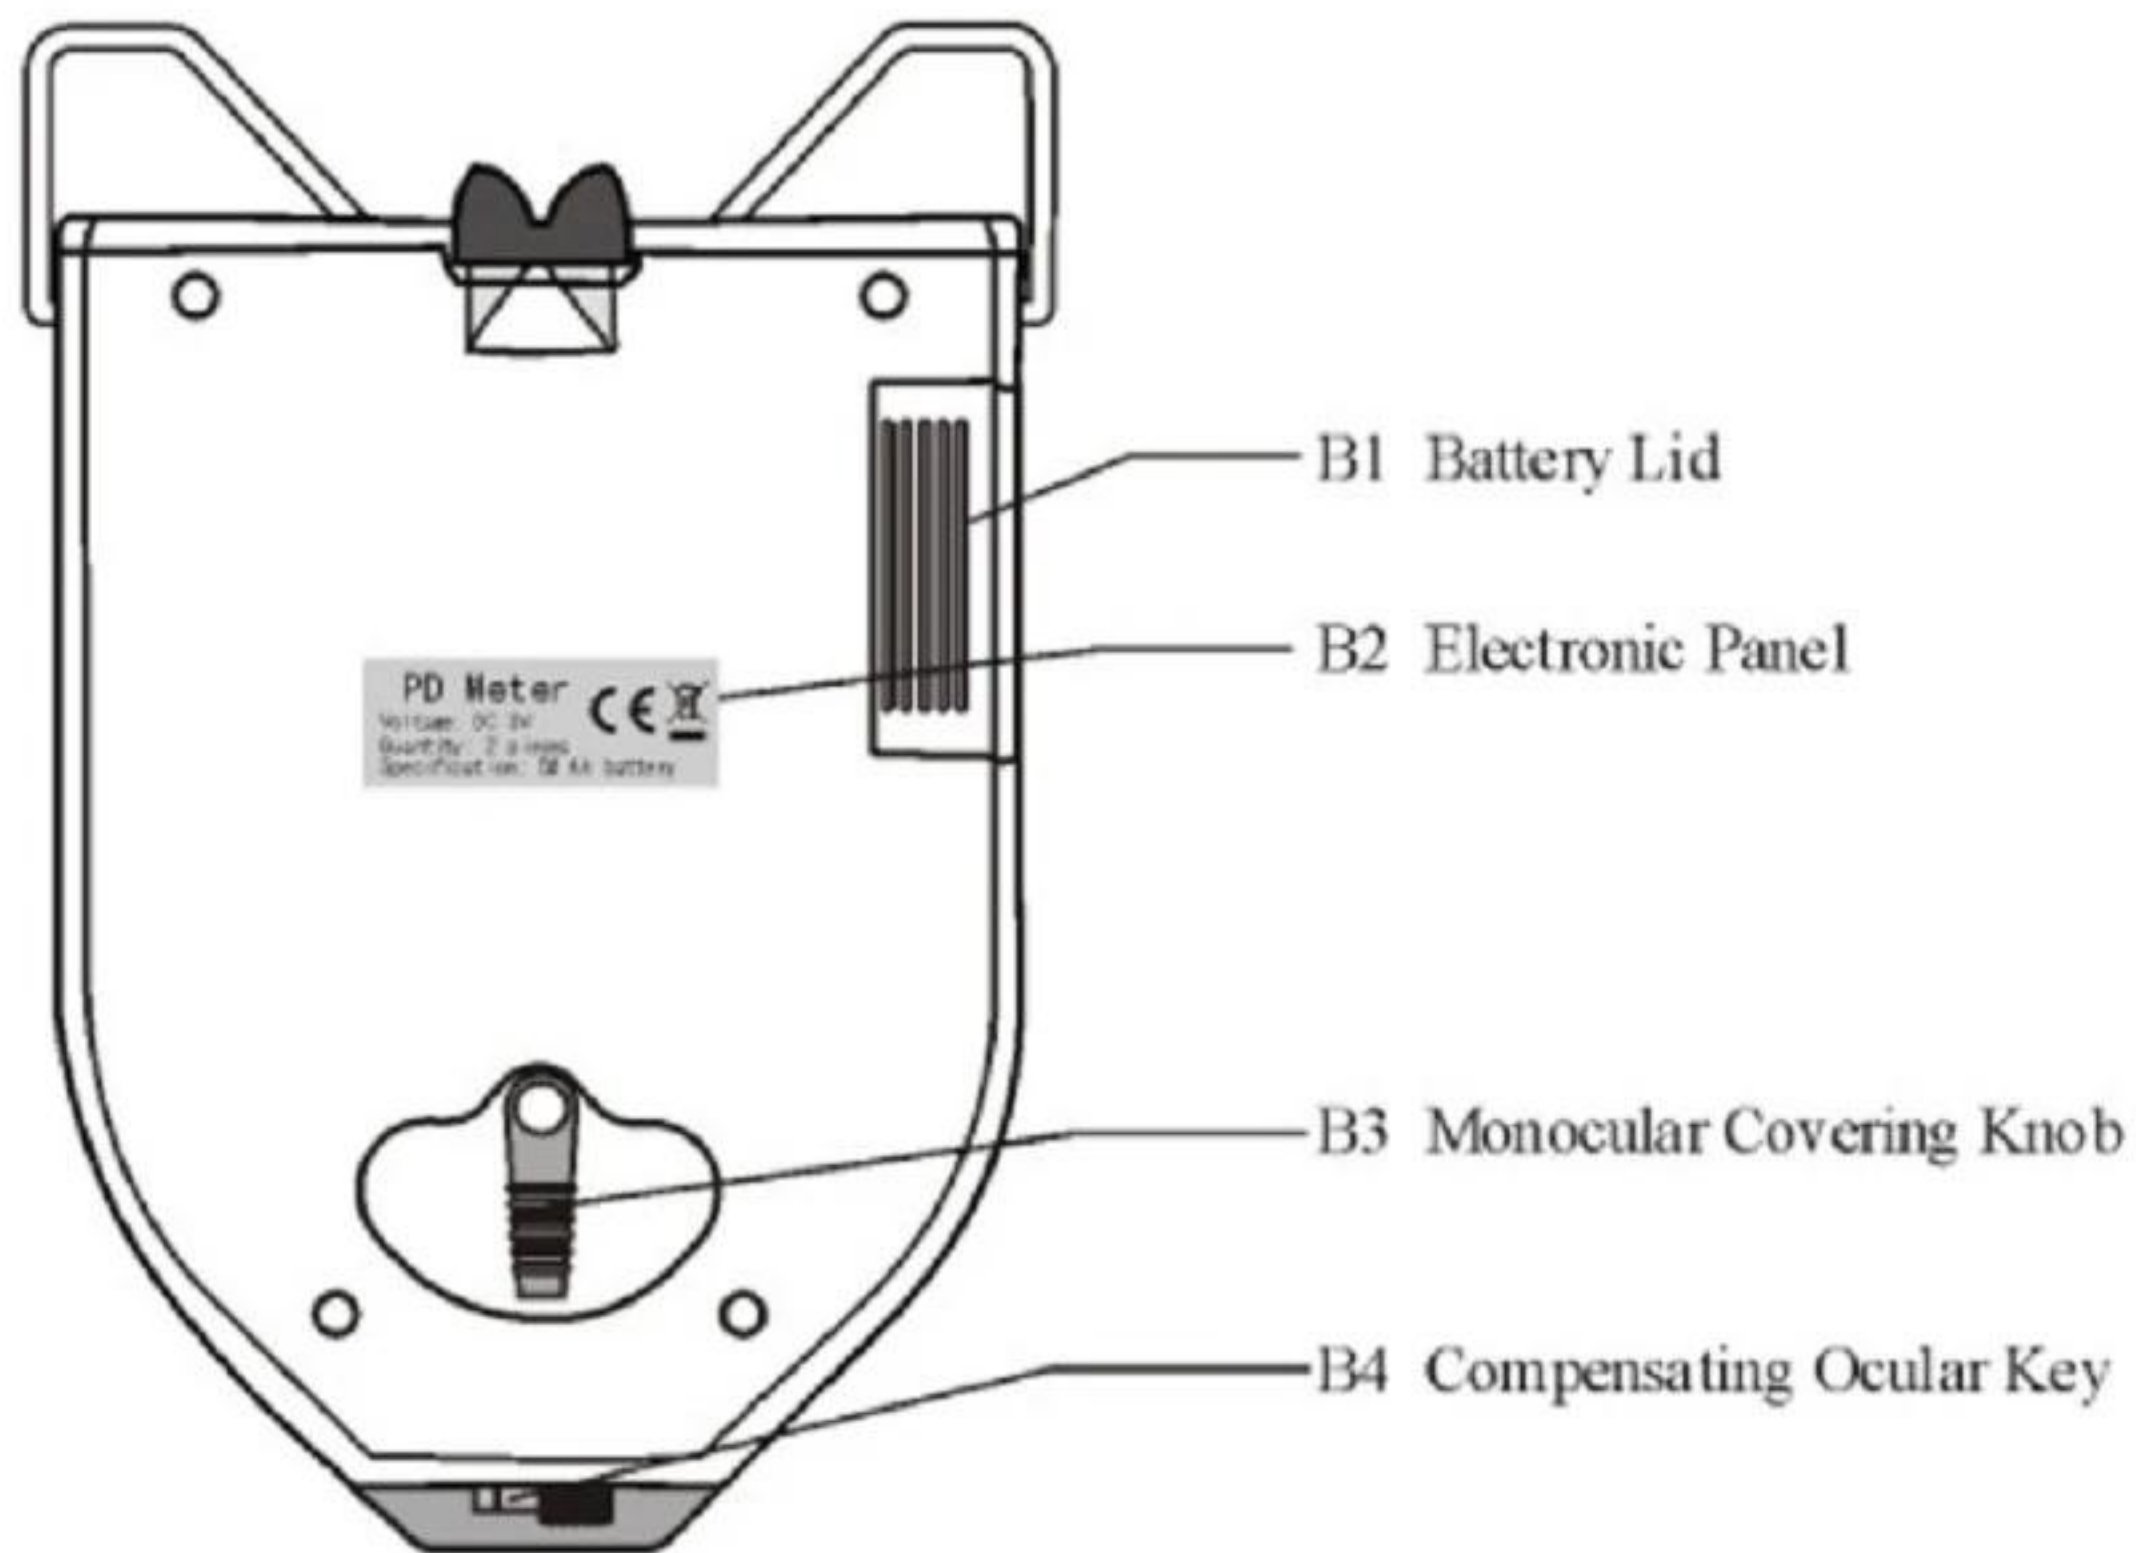
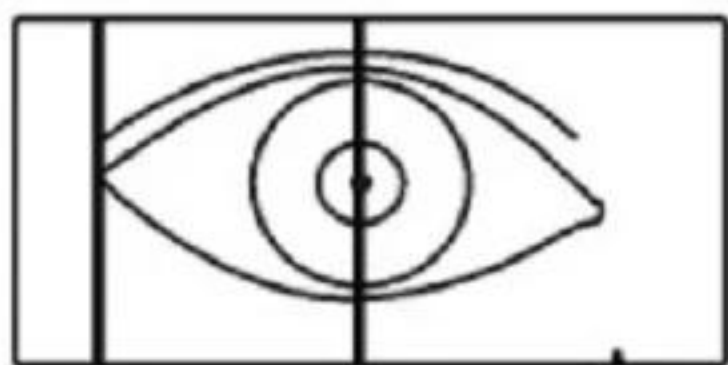
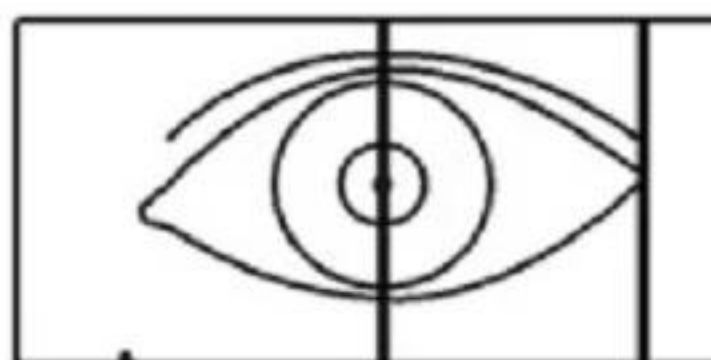

Fig.3
Fig.8a (Measuring right pupillary distance)
Fig.8b (Measuring left pupillary distance)
3.2 Description of Rear Pane (as shown in Fig.3)
4.4.1 When needing to measure the left or right pupillary distance, please turn the Monocular Covering Knob (as shown in Fig.3 NO.2) which can cover the other eye completely(as shown in Fig.8a and Fig.8b).